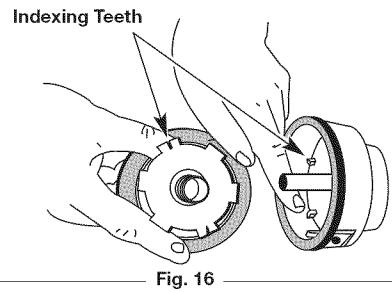

Fig. 16
- Remove spring from the inner reel (Fig. 16).
- Check the indexing teeth on the inner reel and outer spool for wear (Fig. 16). If necessary, remove burrs or replace the reel and spool.